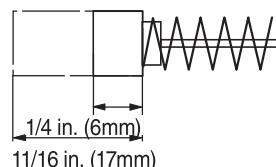
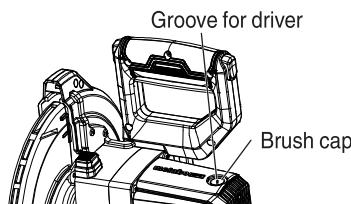
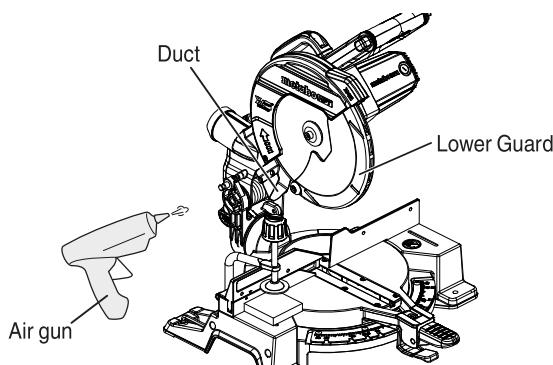

Fig. 30
Fig. 31
Fig. 32
3. Inspecting the carbon brushes (Fig. 30 and Fig. 31)
The carbon brushes in the motor are expendable parts. If the carbon brushes become excessively worn, motor trouble might occur. Therefore, inspect the carbon brushes periodically and replace them when they have become worn to min. 6 mm as shown in Fig. 30. Also, keep the carbon brushes clean so that they will slide smoothly within the brush holders. The carbon brushes can easily be removed after removal of the brush caps (see Fig. 32) with a slotted (minus) screwdriver.
When replacing the carbon brushes, use only metabo HPT carbon brushes having Code No. 383202 (see Fig. 30).